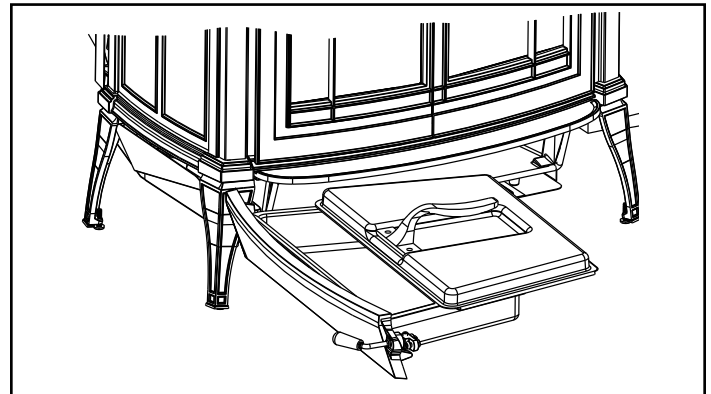

Fig. 41 - Be sure the cover is securely attached before removing the ash pan.
- Slide the cover onto the pan, making sure it is securely closed. (Fig. 41)